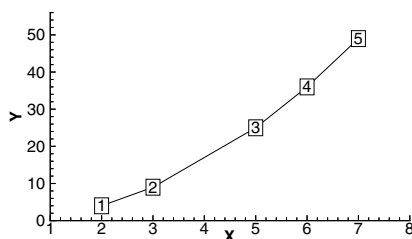

Figure 4-4. An I-ordered data set.
4.2.1.1. I-Ordered Data in POINT Format Example. A simple example of I-ordered data in **POINT** format is listed below. There are two variables (**X**, **Y**) and five data points. In this example, each row of data corresponds to a data point and each column to a variable. This data set is plotted in Figure 4-4; each data point is labeled with its I-index.